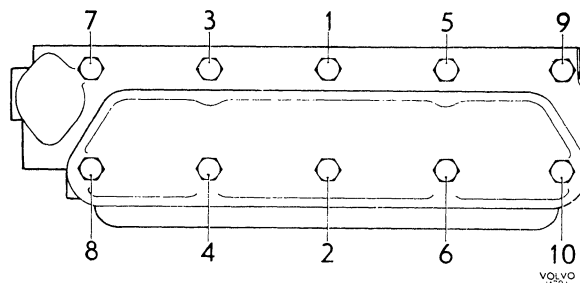
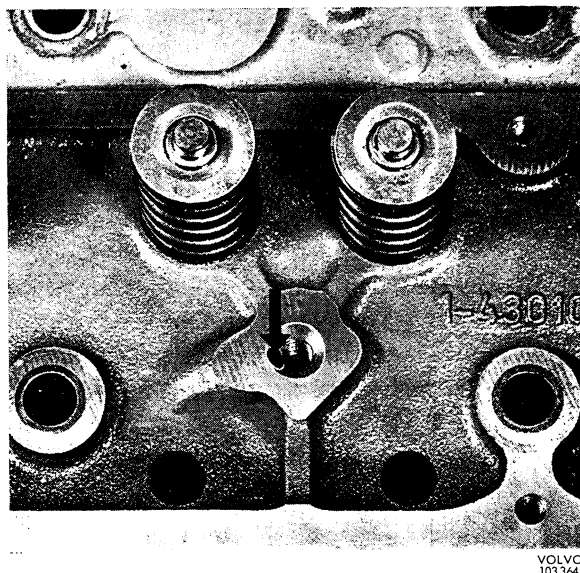
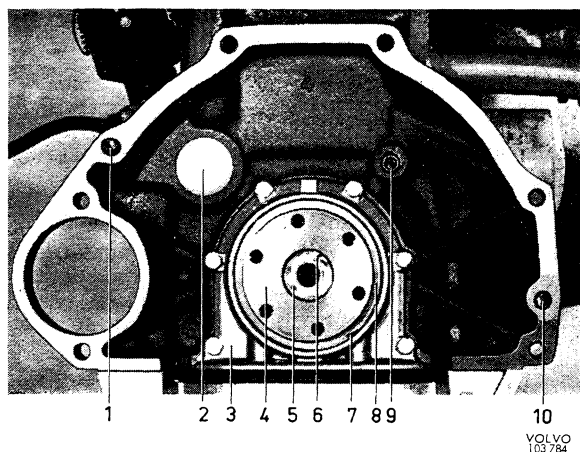
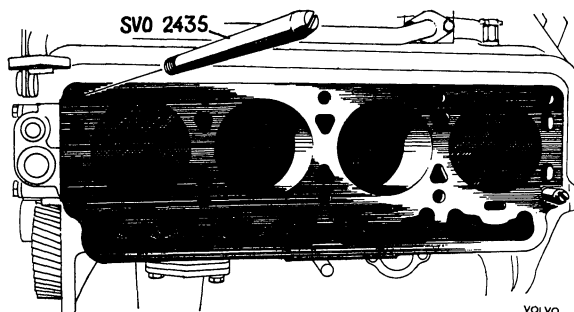

Fig. 2-16. Tightening sequence for cylinder head bolts
Fig. 2-17. Oil hole in cylinder head
Fig. 2-18. Rear end of engine
Fig. 2-19. Guide pins for fitting cylinder head
The cylinder head is fitted with the help of guide pins (SVO 2435). The bolts must be tightened in the sequence shown in Fig. 2-16, in order to avoid unnecessary stresses. Check that the oil hole (Fig. 2-17) for lubricating the rocker arms is clear. The pilot bearing (5, Fig. 2-18) should be lubricated before fitting with heat-resistant ball bearing grease. The bearing and protecting washer are held in position by a circlip (6).
22. Screw the guide pins SVO 2435 into the block, one in the front right-hand hole and the other in the left-hand rear hole, see Fig. 2-19. Install a new cylinder head gasket, a new inlet duct gasket and new sealing rings for the water pump. Fit the cylinder head. Screw out the guide pins and fit the bolts in these holes as well. For tightening sequences and tightening torques, see Fig. 2-16. The tightening torque is 8.5—9.5 kpm (60—70 lb.ft.).